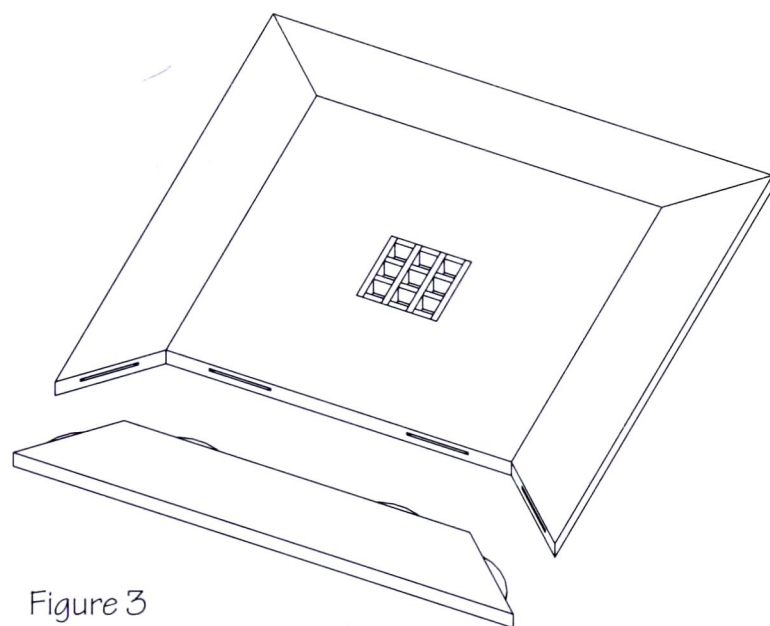

Figure 3
9. With the borders laid out around the panel, mark across the joints for the biscuit jointer (see Biscuit Joinery on page 16 for help). Mark the middle of each miter joint, and mark 3" in from each panel corner along the edge joints. Set the biscuit jointer fence to $\frac{3}{8}$ " and cut slots for #20 biscuits at every mark (see figure 3).